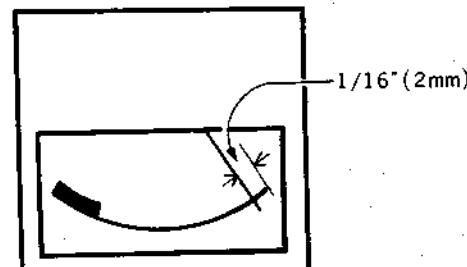

Fig. 4-5-1 Tuner Input Meter Calibration
- Tune the set and adjust R_{251} ($1\text{k}\Omega$), the Meter Calibration, to get the meter pointer to $1/16"$ (2 mm) left of its maximum indication. See Fig. 4-5-1.